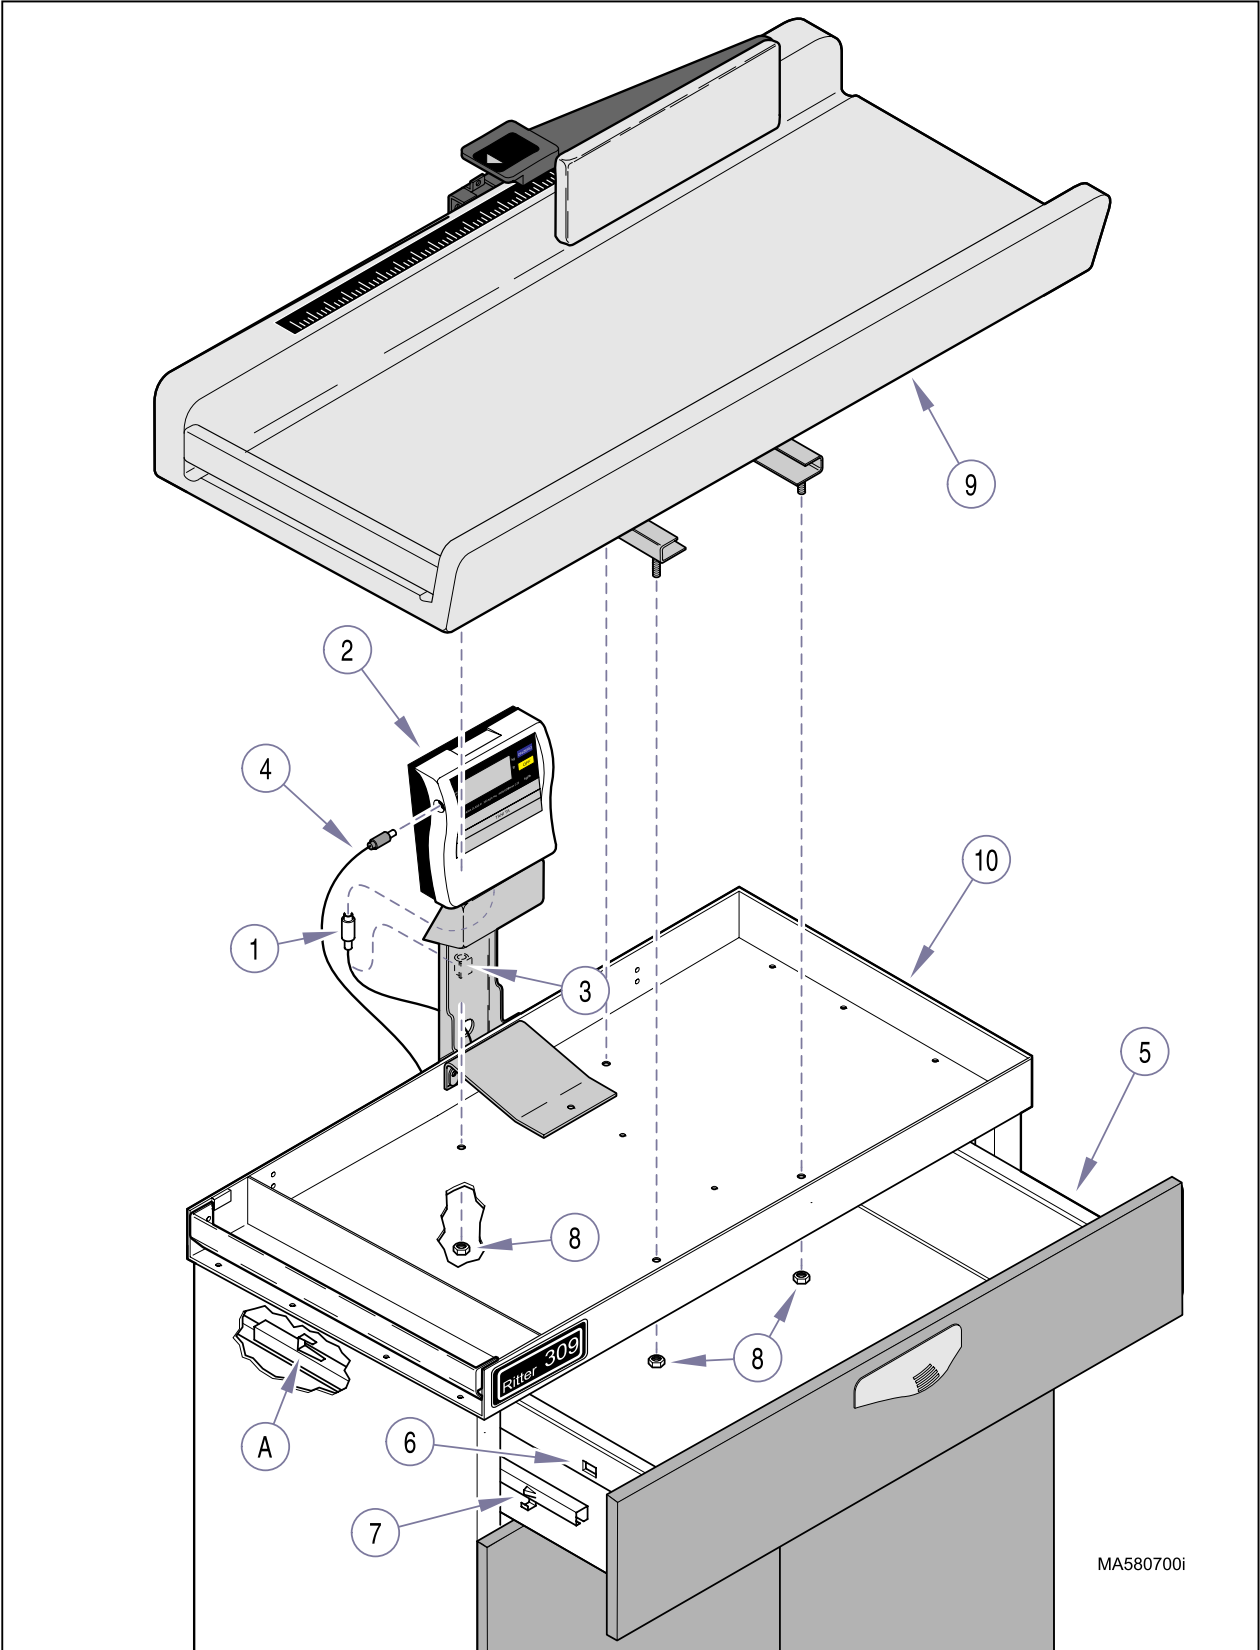

Figure 4-8. Platform Scale Components / Load Cell Assembly Access
- (1) Disconnect display connector (1, Figure 4-8) from digital display (2); then remove cord of display connector from cable clamp (3).
- (2) If using AC adapter, disconnect AC adapter jack (4) from digital display (2).
- (3) Remove drawer (5) from table as follows: pull drawer out until it meets resistance. Then, on both sides of drawer (5), bend sides of drawer outward until locking slots (6) of drawer are free of tabs (7) on drawer slides.
- (4) Remove four nuts (8) and pediatric top assembly (9) from upper wrap (10).
- (1) Position pediatric top assembly (9, Figure 4-8) on upper wrap (10) and secure with four nuts (8).
- (2) Install drawer (5) in table as follows: position drawer on drawer slides. Then, slide back of drawer (5) into rear hooks (A) on each slide and then snap drawer side slots (6) over slide locking tabs (7).
- (3) If using AC adapter, connect AC adapter jack (4) to digital display (2).